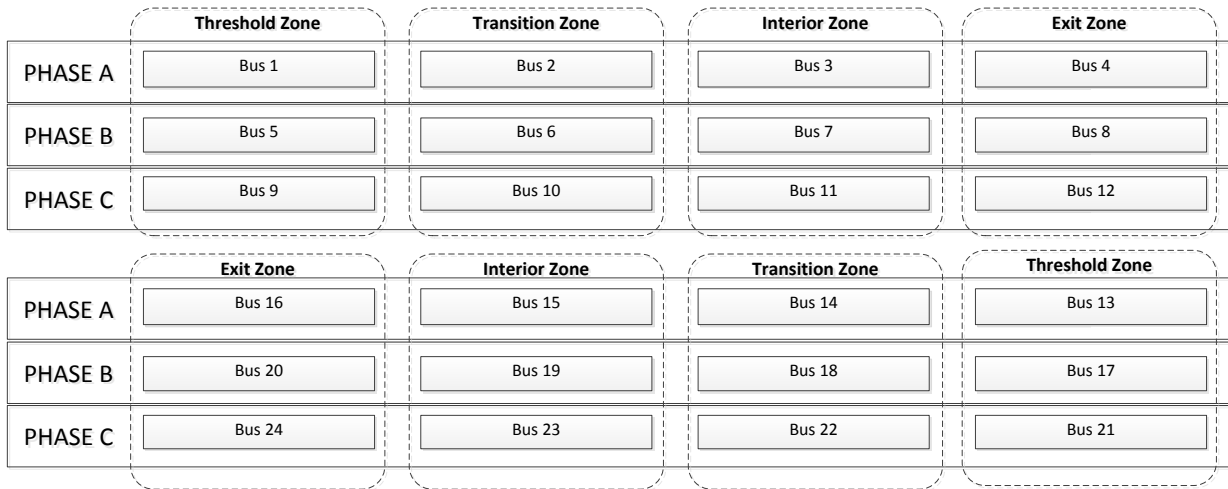

Figure 3: Single bore, 2 directions
**Figure 3** shows a single bore (TLACS controls both directions of traffic), with one (1) or two (2) electrical distribution panels. In this situation it can be that both directions are from one (1) electrical panel, but different zones/busses are needed for each direction as the lighting levels and control might be different depending on the direction